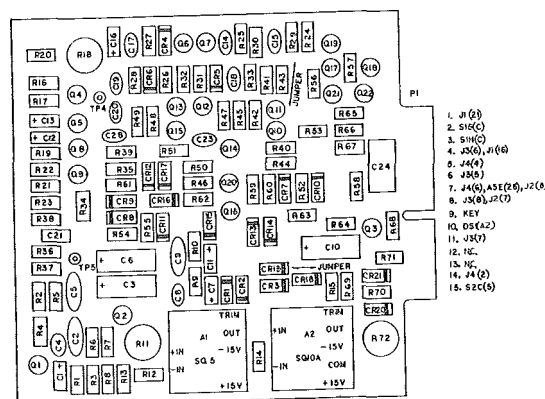

Figure 5-2. Logic Assembly (A2) Adjustments
- c. Monitor the square-wave presentation and adjust potentiometer R18 for a  $200 \pm 20$  millisecond period. See Figure 5-2. for the location of this adjustment.
- d. Adjust potentiometer R72 for a voltmeter indication of  $0V \pm 300\mu V$ . See Figure 5-2. for the location of this adjustment.
- d. Adjust potentiometer R11 until the OSC DET lamp (DS1) is extinguished. See Figure 5-2. for the location of this adjustment.
18. Fasten the Relay & Amplifier Assembly (A3) into place ensuring that the four (4) retaining screws are tightened securely.